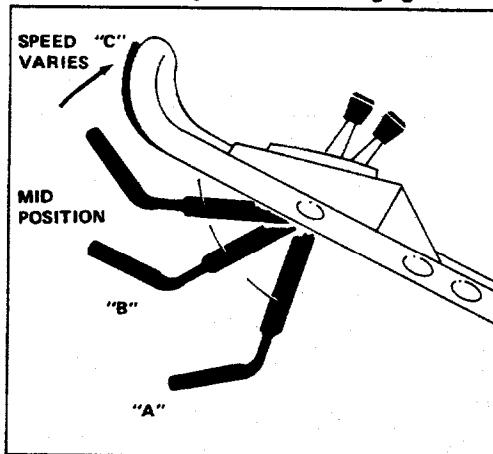

Figure 12
7. BLADE AND TRACTION OPERATION (Fig. 12)—Move control bar down to "A" and raise to "B" to engage blade. Squeeze control bar against handle "C" to drive. Ground speed varies, depending on space between control bar and handle. To disengage traction drive but keep blade engaged, gradually release control bar to mid position. To self-propel with blade disengaged, simply squeeze control bar against handle, eliminating downward movement necessary for blade engagement.